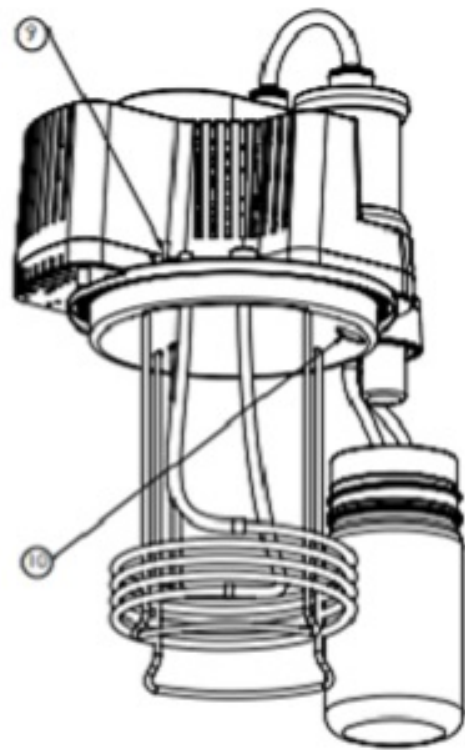

Figure 2
5. Ensure that the Vacuum Plug is fully inserted at point 9 in Figure 2.
6. Lift the PicoStill slightly out of the keg, plug point 10 in Figure 2, and check for a pressure drop.